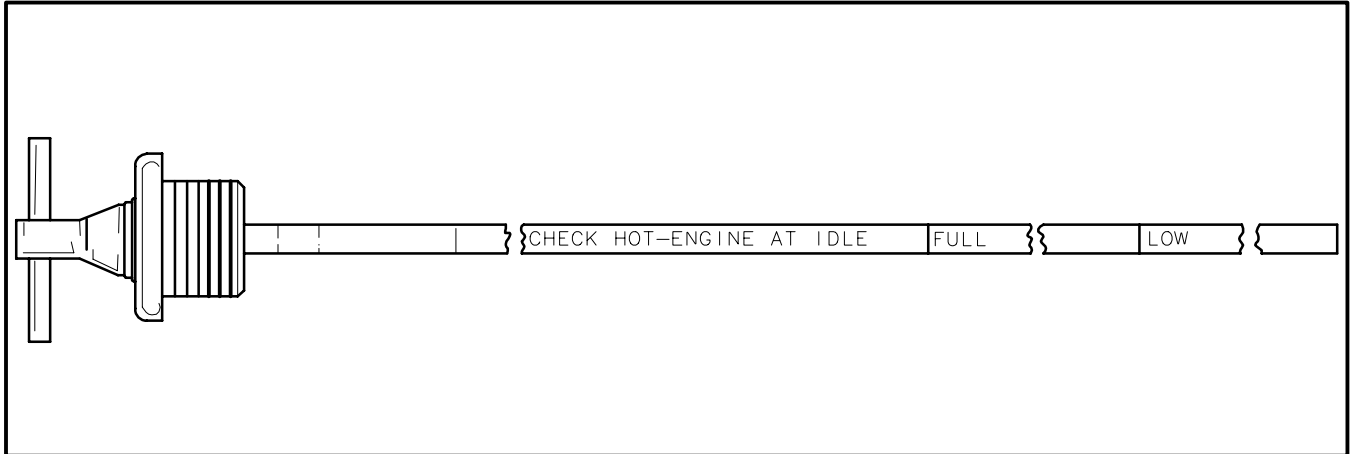

Figure 2-2
6. Remove again and read the oil level on the dipstick. The oil level should be to the full mark on the dipstick. Refer to Figure 2-2.